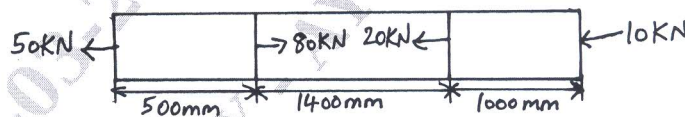

Fig.Q2(b)
- b. A brass bar having cross-sectional area 300mm^2 is subjected to axial forces as shown in Fig.Q2(b). Find the total elongation of the bar, $E = 84\text{GPa}$.